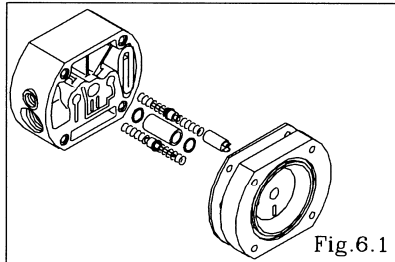

Fig.6.1
- Remove the main body. [Fig.6.1]
- Draw out the pilot valve assembly. [Fig.6.1]
- Remove the packing and bushing. [Fig.6.1]